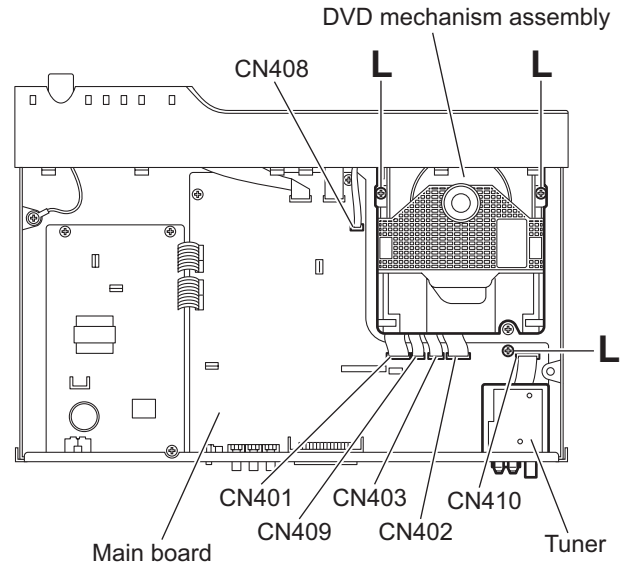

Fig.10
### 3.1.7 Removing the power board (See Figs.10 and 11)
- (1) From the back side of the main body, remove the screw **M** attaching the power board to the rear panel. (See Fig.10)